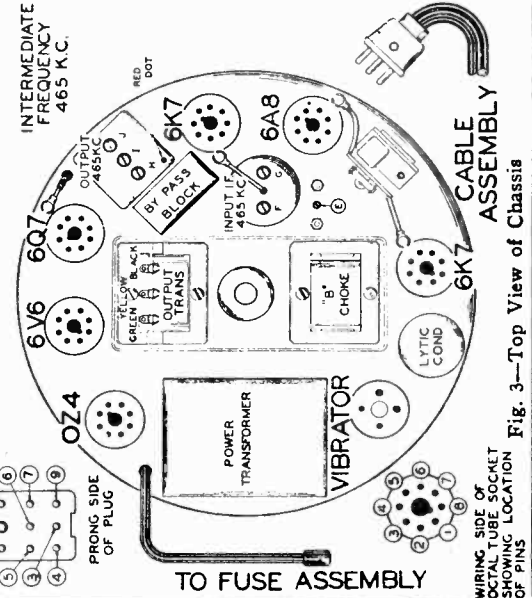

Fig. 3—Top View of Chassis
2. Adjust trimmers "H" and "I" of output I.F. transformer for maximum gain, (See Fig. 3, top view).
4. Re-set test oscillator to 600 K.C. and rotate Remote Tuner Unit dial to 600 K. C. Adjust shunt oscillator adjustment "E", rotating dial to and fro at the same time adjusting shunt oscillator for maximum gain. This adjustment is accessible from the top of the radio chassis, (See Fig. 3, top view).